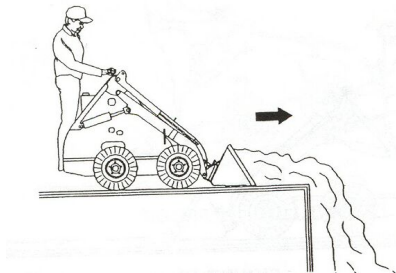

Figure 19
1. When filling a trench or a hole, drive up to the hole with bucket low or push material up to edge, as in Figure 19.